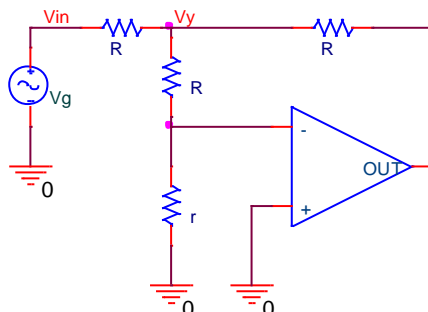

Figure 9
- 8.2. For a Non-ideal Op-Amp as given in figure 9, which voltage points could you measure in the lab to find  $A_{OL}$  and why? Describe the input signal (shape, frequency and amplitude) required for this measurement and the expected measured signals.